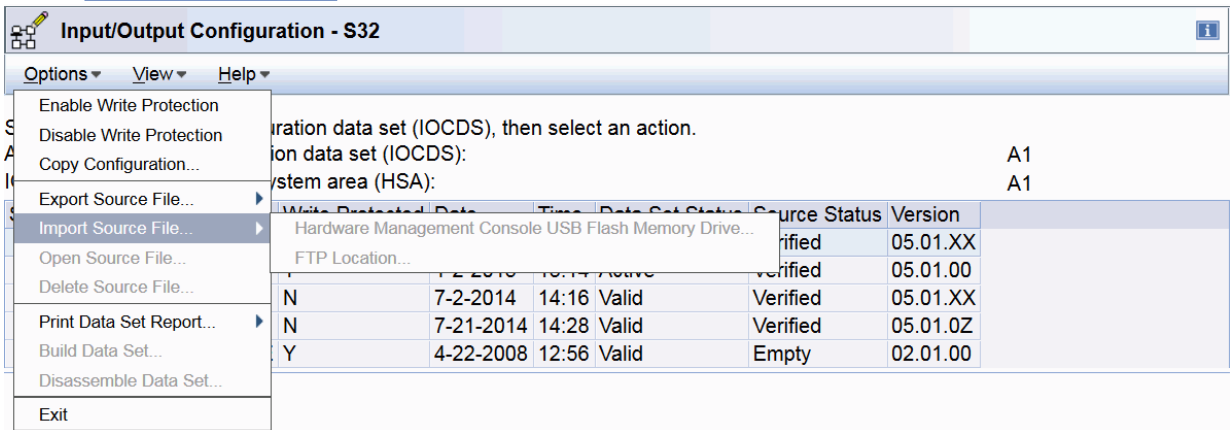

Figure 66. Input/Output Configuration window with Options and Import Source File menu items
4. Point to **Import Source File**, and then click **Hardware Management Console USB Flash Memory Drive**. Figure 66 on page 49 shows the window including these choices.